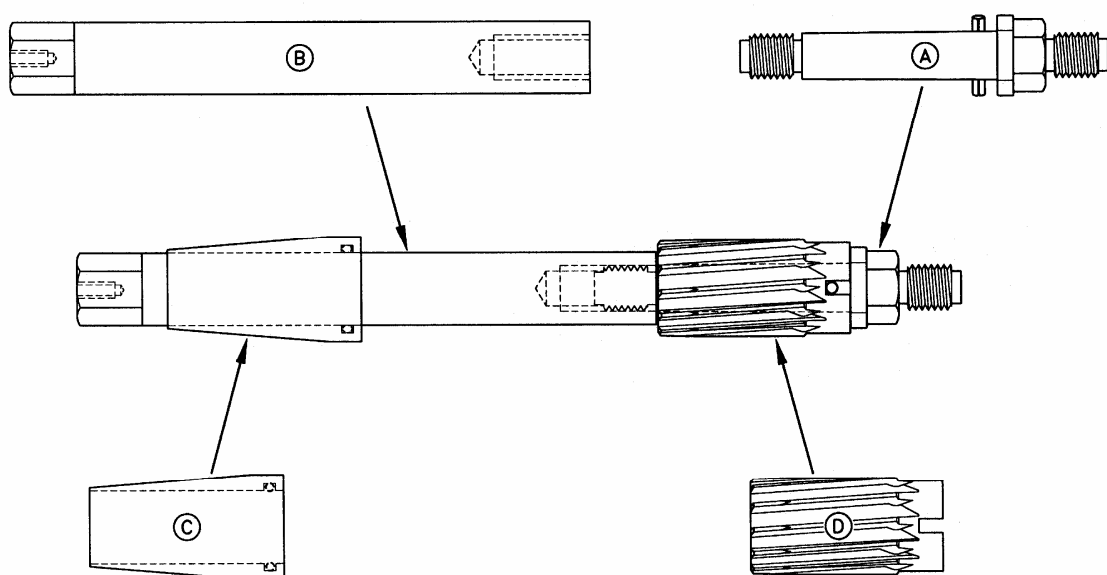

Fig.8
<p>Using two (2) 1" combined wrenches tighten this assembly to 10-15 ft. lbs. Torque. Refer to fig.8 for assembled view of tool.</p>